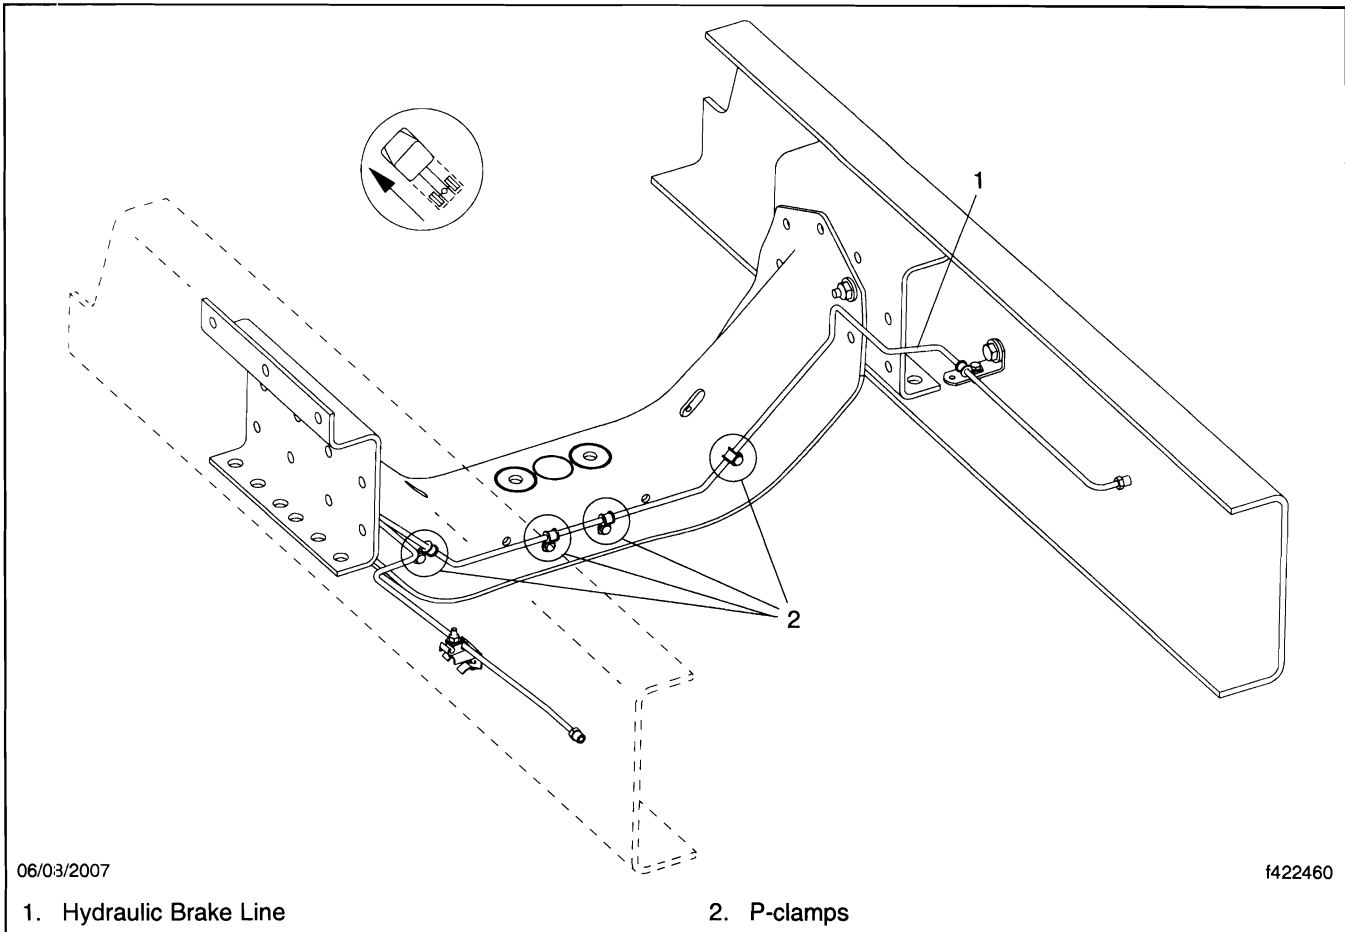

Fig. 1, Hydraulic Brake Line Routing
4. With the engine off, inspect for the following (see **Fig. 1**):